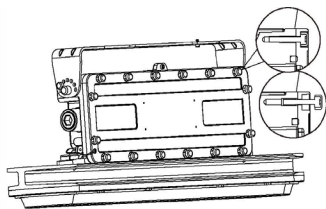

Fig. 1
3. Loosen the screws on the driver box cover (Fig 1).